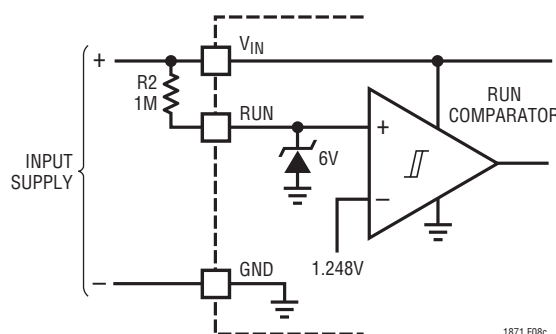

Figure 8c. External Pull-Up Resistor On RUN Pin for "Always On" Operation
**For applications where the RUN pin is only to be used as a logic input, the user should be aware of the 7V Absolute Maximum Rating for this pin!** The RUN pin can be connected to the input voltage through an external  $1\text{M}$  resistor, as shown in Figure 8c, for “always on” operation.